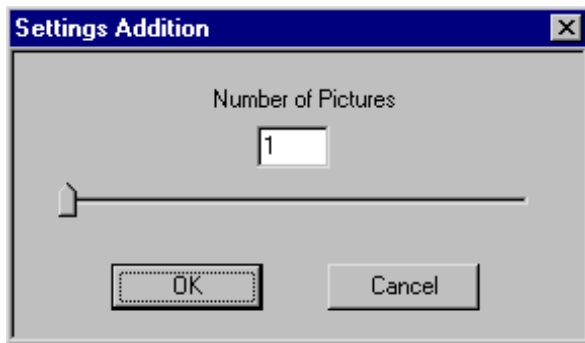

Figure 36: *Number of Images*
- The desired number of images can be selected under *Options / Addition Settings* (see *Figure 36*).